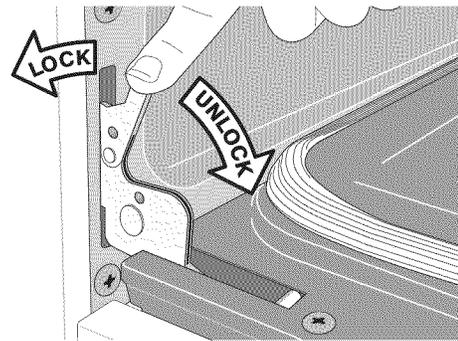

Figure 22: Door hinge locks
2. Pull the door hinge locks on both left and right door hinges down from the oven frame completely toward the oven door (See Figure 22). A tool such as a small flat-blade screwdriver may be required.
4. Push the door hinge locks up toward and into the oven frame on both left and right oven door hinges to the locked position (Figure 22).